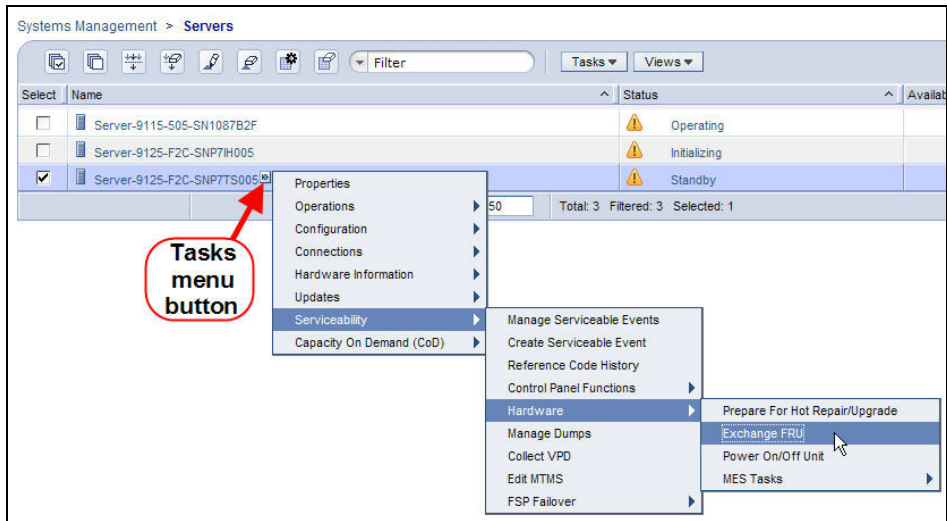

Figure 6 Exchange FRU Panel
STEP 10 From the **Tasks** menu *select* **Serviceability -> Hardware -> Exchange FRU**. See Figure 6.